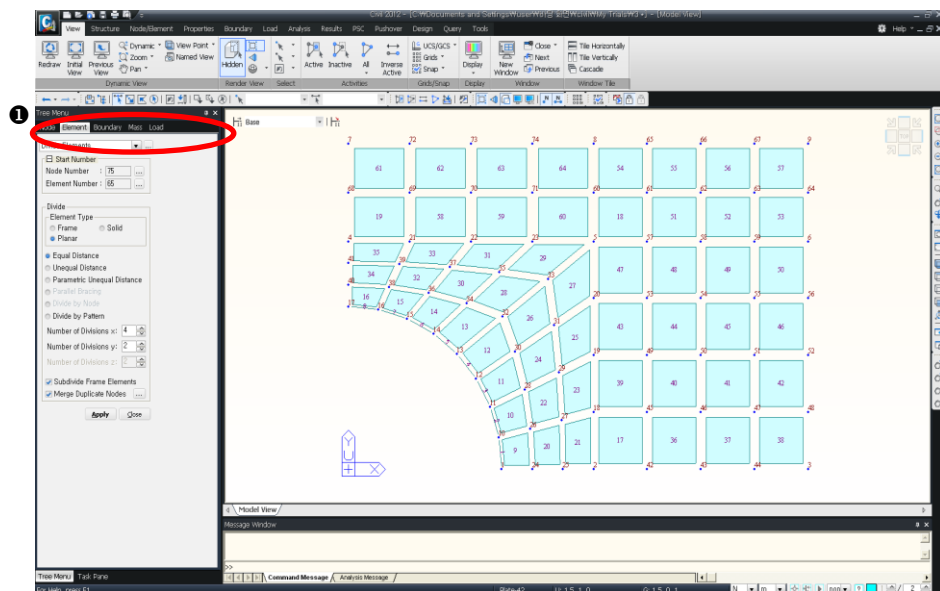

Figure 3.7 Division of Web Plate Elements
1. Select **Divide Elements** in the functions selection field (Fig.3.7–①).